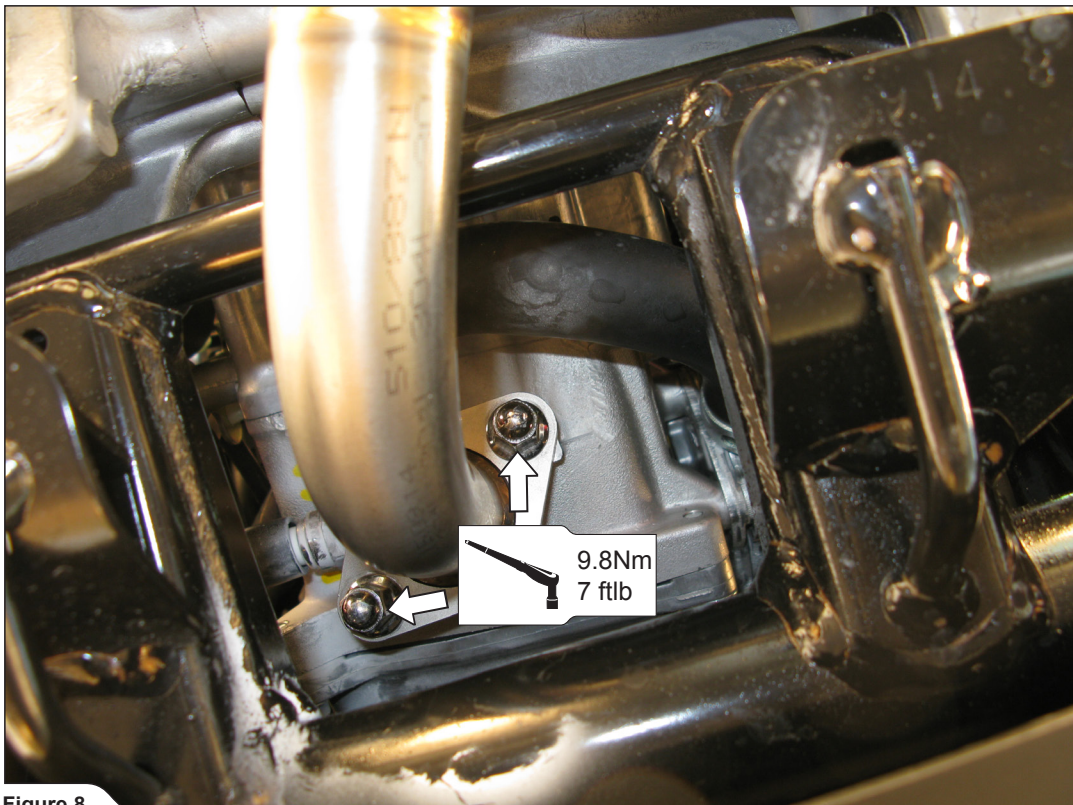

Figure 8
3. Tighten the header onto exhaust port, using stock nuts (Figure 8).